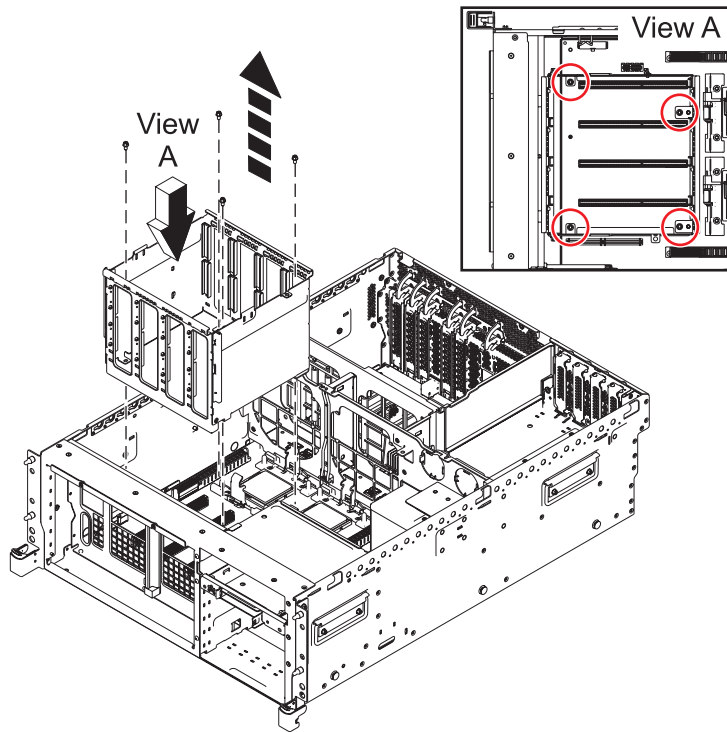

Figure 36. Removing the DIMM cage
- a. Remove the four screws that secure the DIMM cage (**View A**). See Figure 36 on page 61.